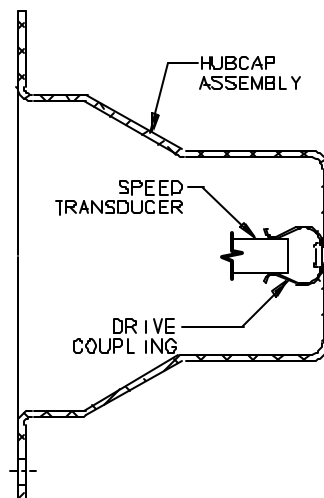

Figure 6
7.32 Refer to Figure 6 and fasten hubcap assembly to wheel assembly making sure that the hubcap drive coupling engages the wheel speed transducer. Lubricate the hubcap attachment fastener threads with MIL-T-5544 anti-seize compound. Secure hubcap with washers and screws. Torque the hubcap attachment fasteners to 20 - 25 in.-lbs.